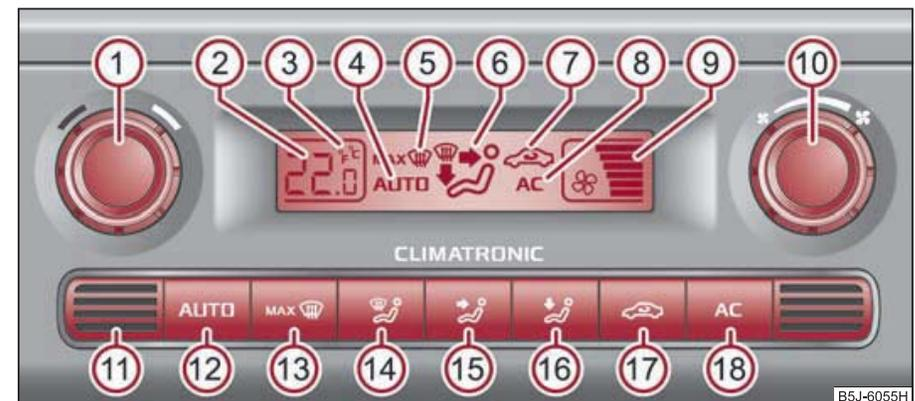

Fig. 93 Climatronic: Control elements
- Press the button  ⇒ fig. 93.
Press and hold the buttons  and  ⇒ fig. 93 at the same time. The information in the desired temperature measuring unit appears in the display.
- Press the button  ⇒ page 83, fig. 93.
- Turn the control dial  ⇒ page 83, fig. 93 to the left (reduce blower speed) or right (increase blower speed).
- Press the button   ⇒ page 83, fig. 93,  appears in the display.